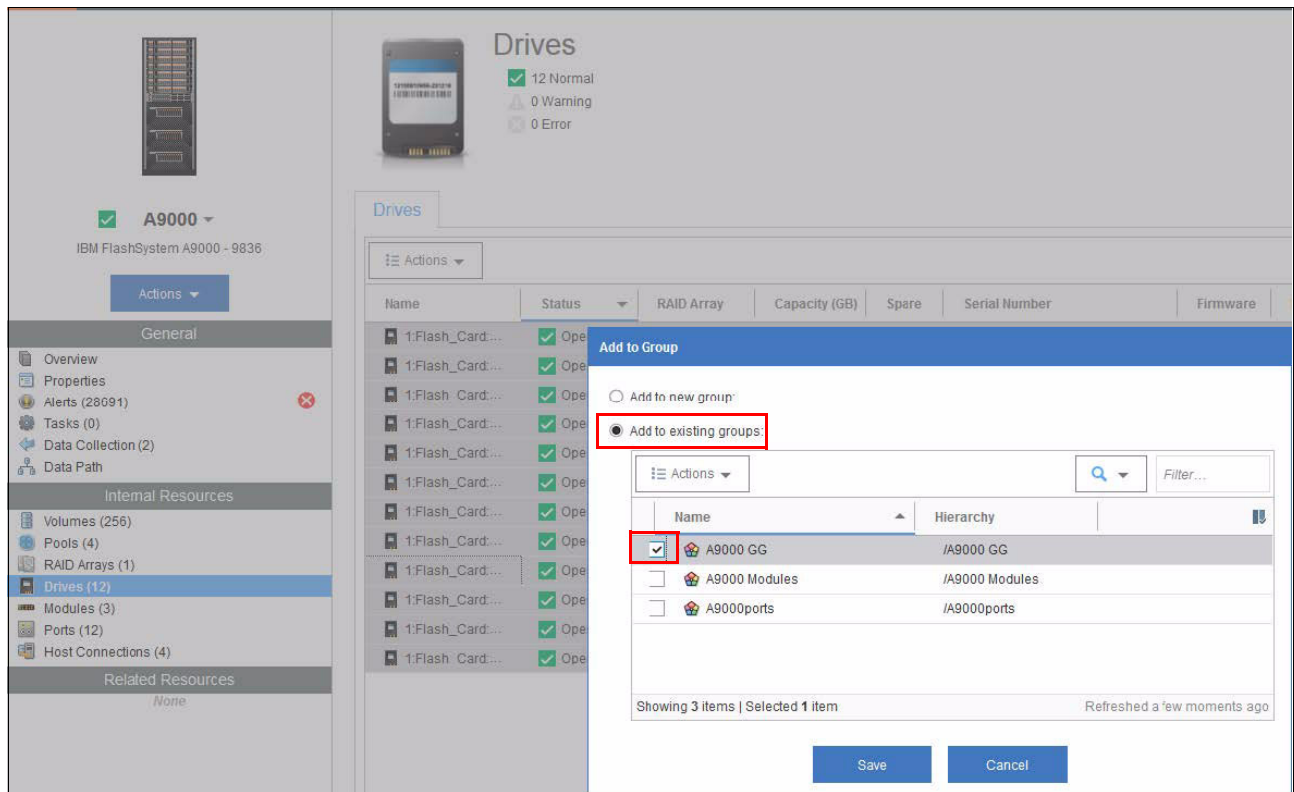

Figure 3-12 Adding internal resources to an existing general group
4. To be able to set up alerts/thresholds on the internal resources of the storage systems, the internal resources need to be added separately to the same general group, as shown in Figure 3-12.